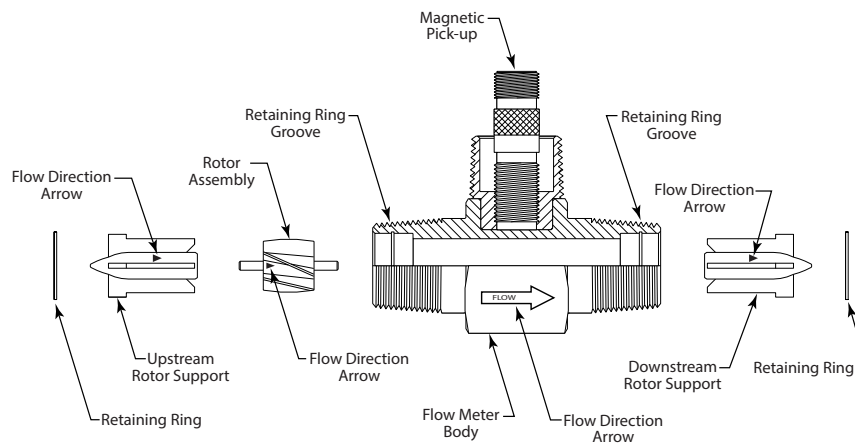
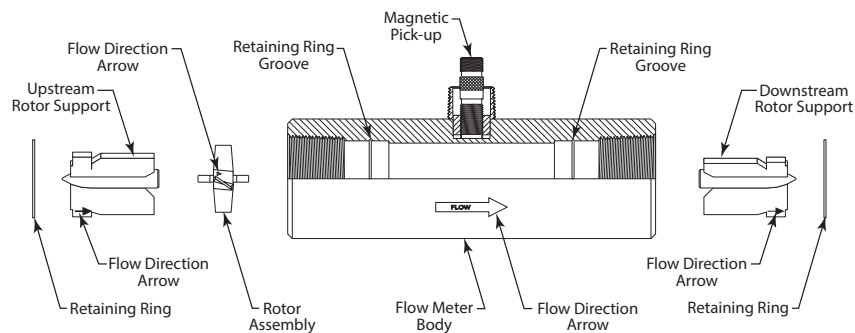
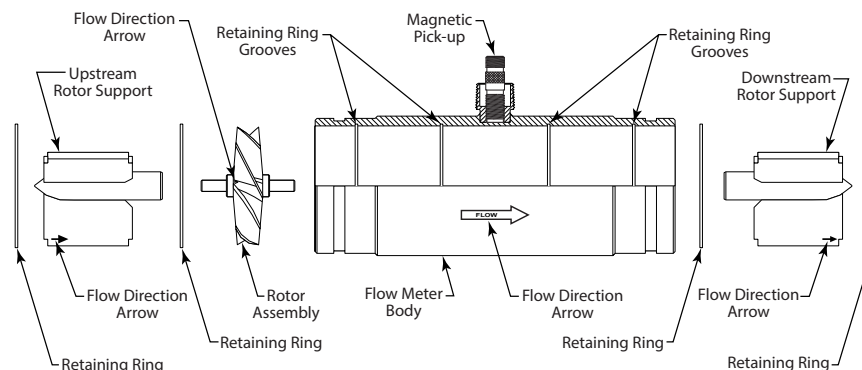

Figure 7: Component positions for B110-375...B111-115 and B111-121
Figure 8: Component positions for B111-120 and B111-130
Figure 9: Component positions for B111-140 and B111-200
1. Refer to *Figure 7*, *Figure 8* and *Figure 9* for relative positions of repair kit components.
**NOTE:** 4 in. and larger meters have two retaining rings (one on either side of the rotor) that require removal before the rotor can be removed (see *Figure 9*).
Before reassembly, note that an arrow is cast or engraved on each component. The arrow indicates the primary flow direction. When reassembled, the arrowheads must point in the direction of the fluid flow. The arrows must also be oriented in the up position on both rotor supports. The magnetic pickup side of the body signifies the up position. Performance of repair kit calibration is in the up position. Reinstallation of the repair kit in the up position ensures continuation of accurate measurements. Figure 7, Figure 8, and Figure 9 show the proper alignment and orientation of the repair kits.
**NOTE:** 4 in. and larger meters have a retaining ring at both ends of the rotor (see Figure 9).